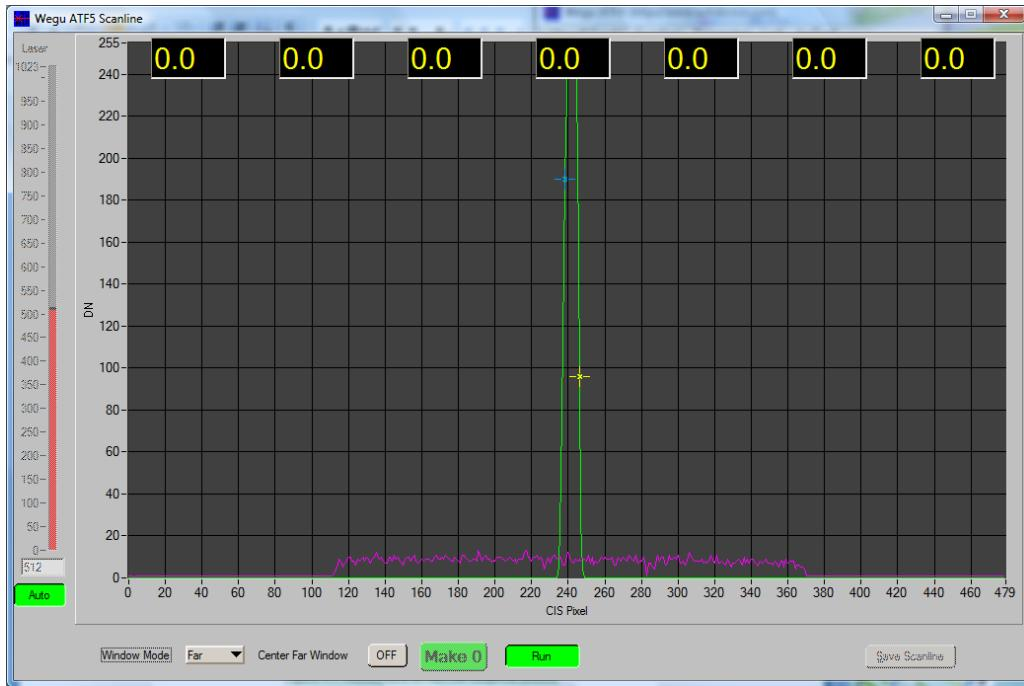
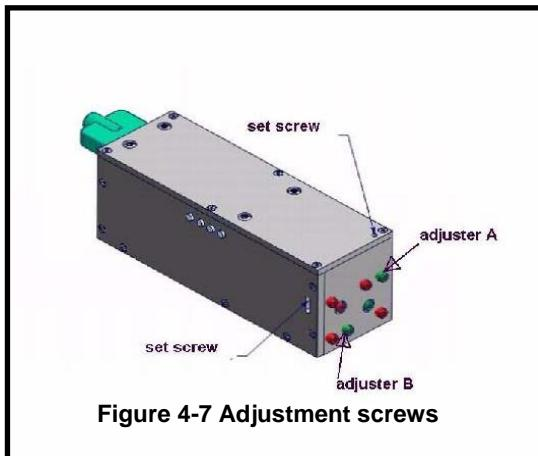

Figure 4-6 Far mode with narrow measuring peak (green) and broad ridge (purple).
Figure 4-7 Adjustment screws
- Adjust the Green scanline by turning the adjuster screw A (not sealed by red enamel) to position 240, Figure 4-6 and Figure 4-7